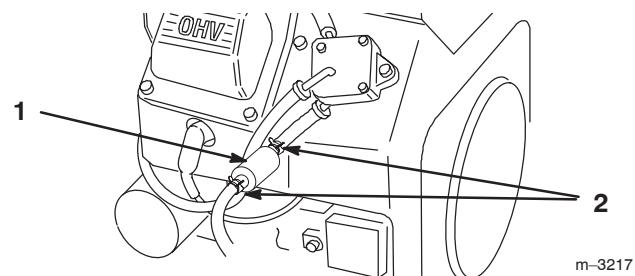

Figure 25
- Squeeze the ends of the hose clamps together and slide them away from the filter (Fig. 25).